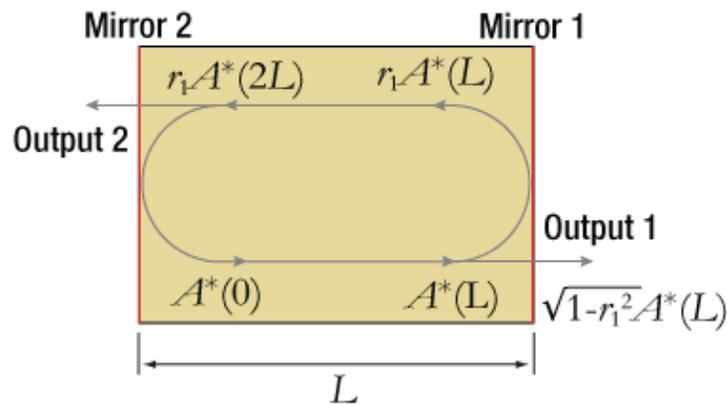

Figure 1: Fabry-Perot Laser Structure
Two elements are required for a laser to operate: (1) an active gain medium that amplifies the optical signal and (2) a feedback mechanism to provide sustained laser oscillation. In a Fabry-Perot laser, two mirrors having a reflection coefficient  $r_1$  and  $r_2$  (power reflectance  $R_1 = r_1^2$  and  $R_2 = r_2^2$ ) provide feedback for the optical field, as shown in Figure 1.